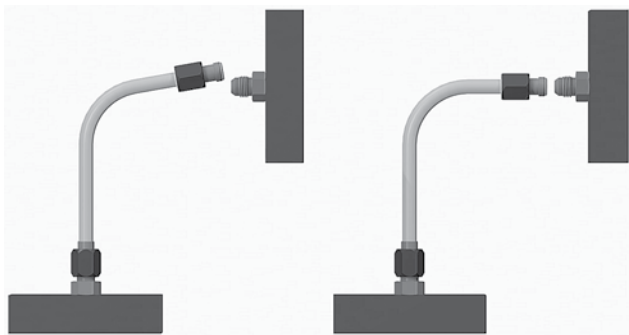

**Fig. S30 – Underflaring and overflaring**
**Underflaring** (see Fig. S30) reduces contact area causing excessive nose collapse and leakage; or, in extreme cases, tube pull out under pressure.
**Overflaring** (see Fig. S30) causes tube nut thread interference, either preventing assembly altogether, or giving a false sense of joint tightness resulting in leakage.